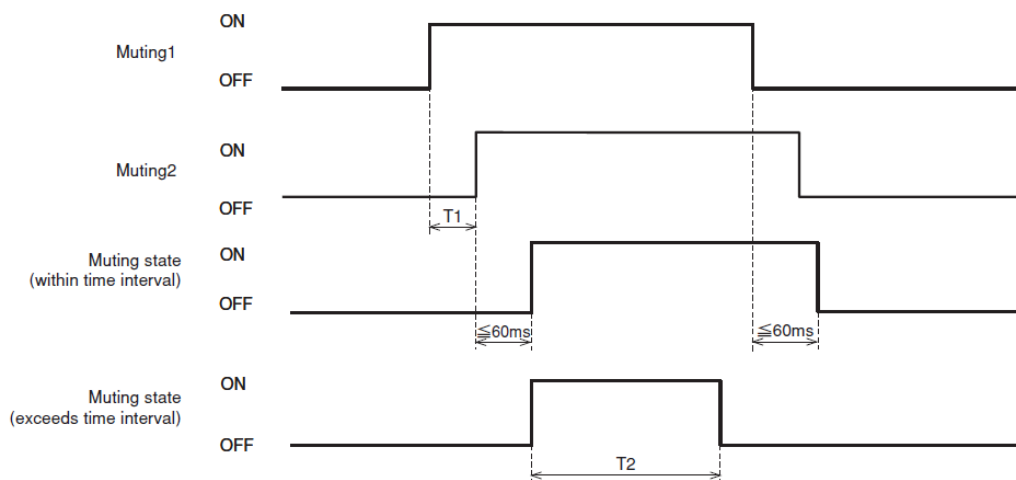

Figure 3-20 Muting sequence
Muting function suspends the safety function in the configured muting zone of UAM when specified conditions are fulfilled. In the muting state Protection detection state remains ON even when there is an object in the muting zone. Two independent input signals (either hard wired or from EtherCAT communication (FSoE)) are provided to start and end the muting function. Muting zone and related parameters are configured using the UAM project designer. When muting inputs fulfill the muting start conditions, UAM will suspend the safety function within 80ms and resume the safety function if they fulfill the muting stop conditions. Figure 3-20 shows the muting sequence. It is possible to configure muting zone in every protection zone. Maximum number of areas in the device depends on the selection of protection, muting and warning zones which is shown in Table 3-4.
- When the predefined (preset) maximum muting time T2 exceeds (1 minute and above) (Figure 3-20).